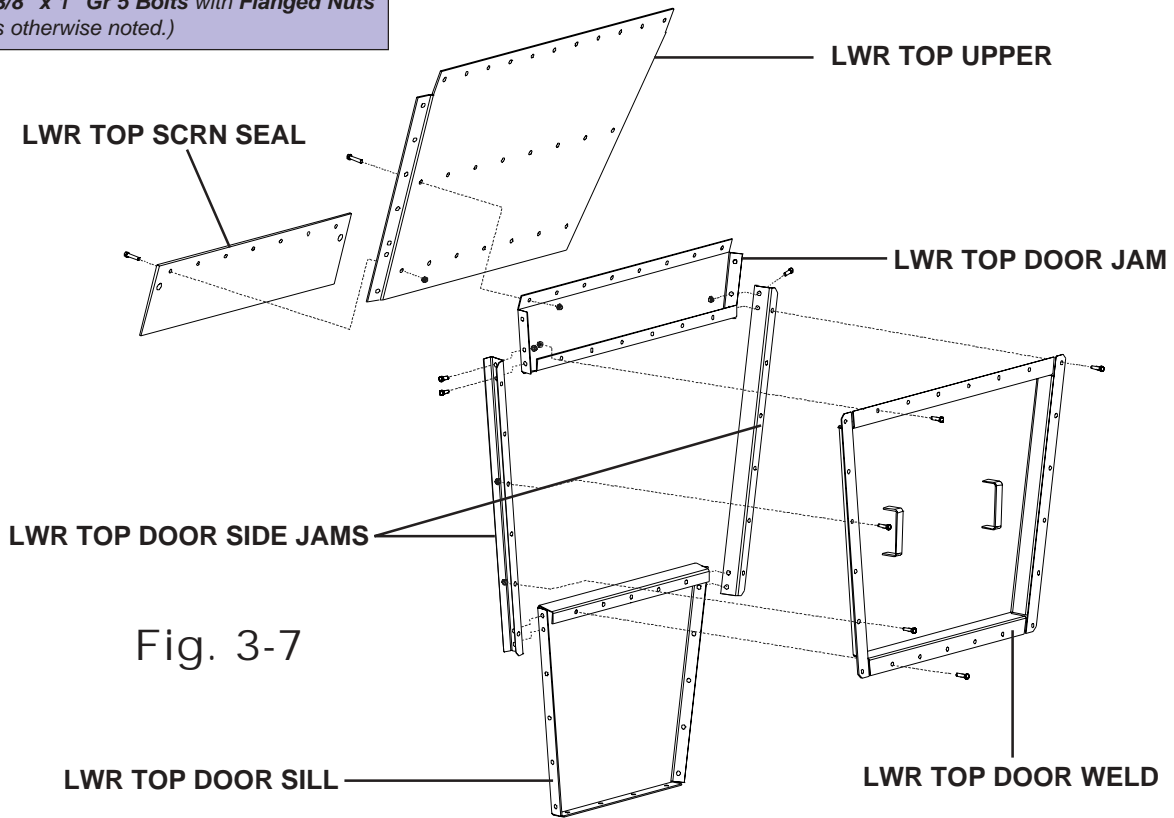

Fig. 3-7
10. **Two Lower Access Doors** are standard. General Installation is 180° apart, although almost any position could be considered. Assemble both door frames using the **LWR TOP DOOR SILL**, **LWR TOP DOOR JAM** and two **LWR TOP SIDE JAMs** with sealant to complete a door bolting frame. Connect together using 3/8" x 1" Gr 5 Bolts with flanged nuts. hardware. Attach the **LWR TOP DOOR JAM** to **LWR TOP UPPER**, which should be installed to a **RING BM WELD**. Do not install the **LWR TOP DOOR WELD** at this time. (See Fig. 3-7)